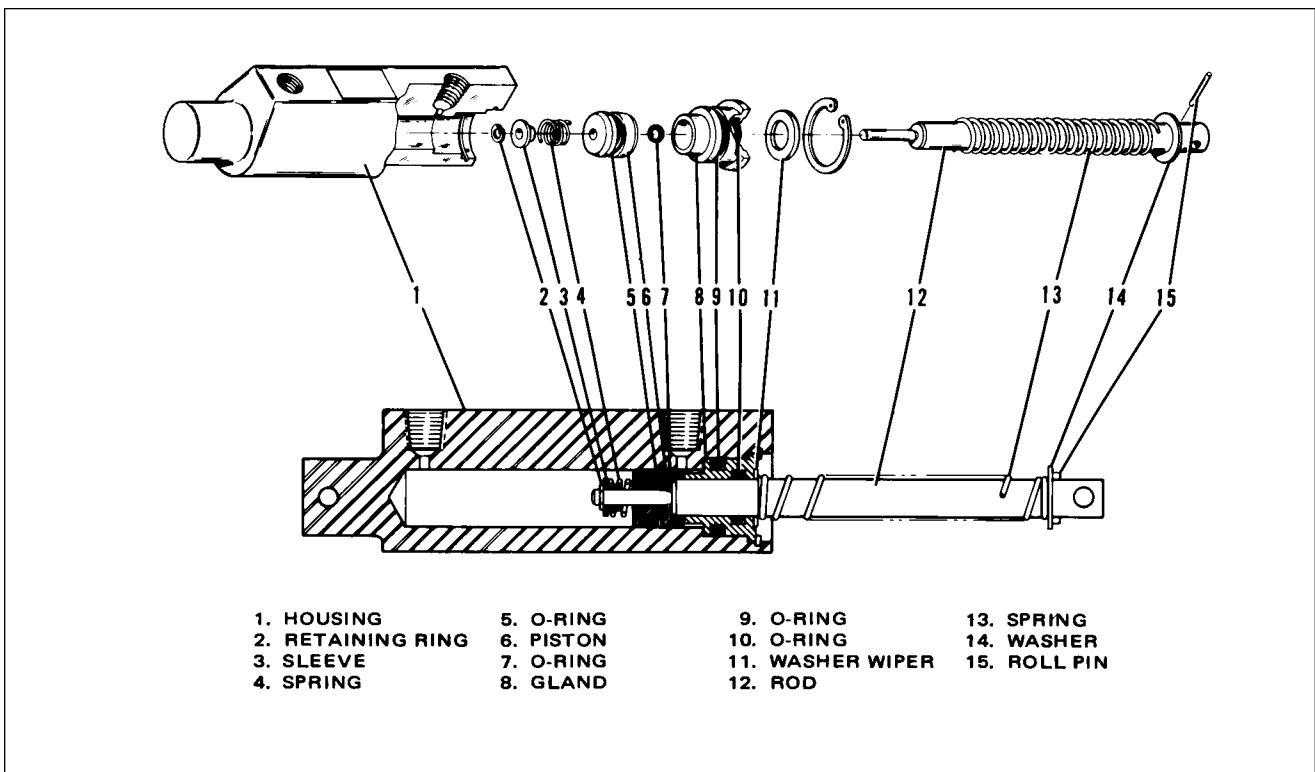

Figure 32-21. Brake Cylinder (10-30) (Toe Brake)
2. Cleveland cylinder number 10-30 (Refer to Figure 32-21).